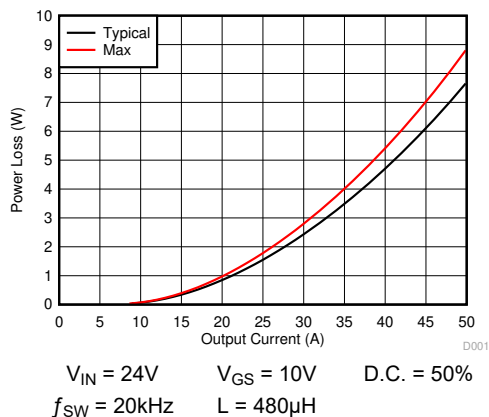
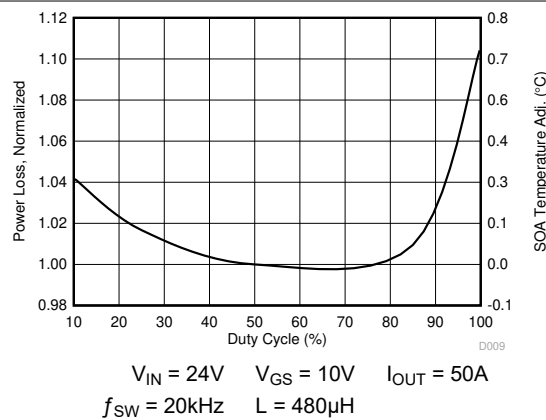

Figure 4-1. Power Loss vs Output Current
Figure 4-6. Normalized Power Loss vs Duty Cycle
The typical power block system characteristic curves (Figure 4-1 through Figure 4-6) are based on measurements made on a PCB design with dimensions of 4in (W) × 3.5in (L) × 0.062in (H) and 6 copper layers of 2oz copper thickness. See Section 5 section for detailed explanation. $T_J = 125^\circ\text{C}$, unless stated otherwise.
Figure 4-1 plots the CSD88584Q5DC power loss as a function of load current. The measured power loss includes both input conversion loss and gate drive loss.
In the example below, we show how to achieve this for the temperatures $T_C = 124^\circ\text{C}$ and $T_B = 120^\circ\text{C}$. First we draw from 50 A on the Y-axis at 124°C to 120°C on the X-axis. Then, we draw a line up from where this line crosses the T_X line to see that this line intercepts the SOA at 39A. Thus we can assume if we are measuring a PCB temperature of 124°C , and a top case temperature of 120°C , the power block can handle 39A RMS, at the normalized conditions. At conditions that differ from those in Figure 4-1, the user may be required to make an SOA temperature adjustment on the T_X line, as shown in the next section.
- Power loss at 40A \approx 4.7W (Figure 4-1)
- Normalized power loss for duty cycle \approx 1.06 (Figure 4-6)
- SOA adjustment for duty cycle \approx 0.4°C (Figure 4-6)